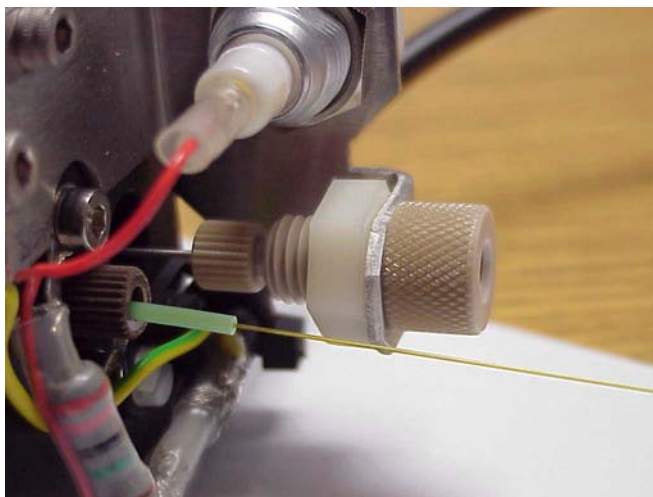

Figure 6-19 Threading the Tube Through the Probe Assembly
- a. Thread the tube through the plastic nut (Figure 6-19) and the rest of the assembly.